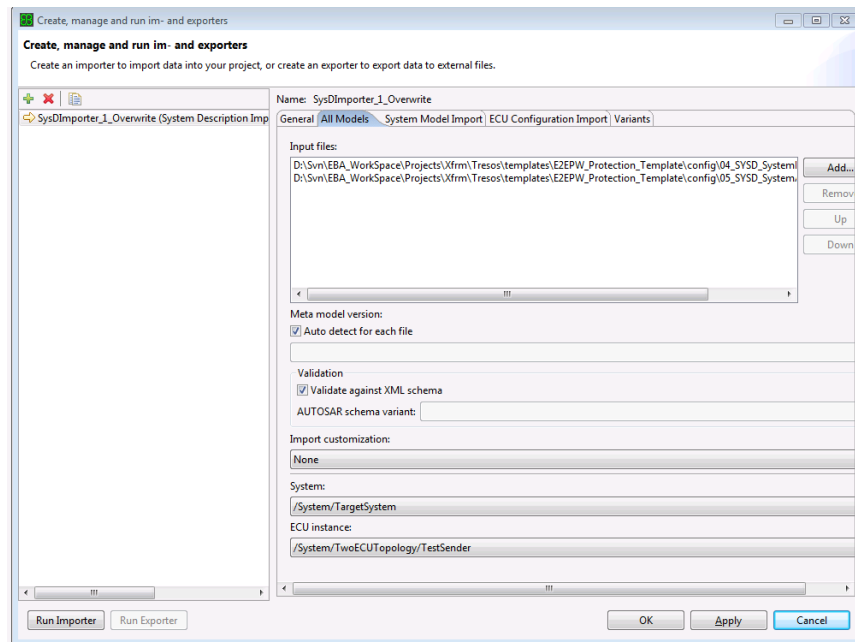

Figure 3.12. System Description Import
- ▶ Import Step 1 (see Figure 3.12, "System Description Import"):